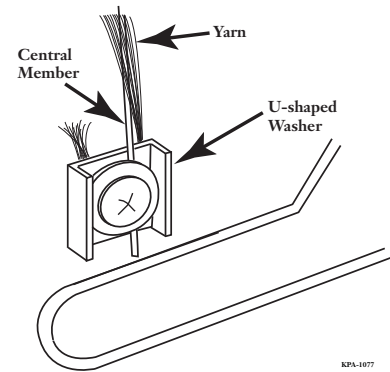

Figure 8 — Central Member Strain-relief
**Step 4:** Wrap yarn around the screw in a clockwise direction and under the U-shaped washer (Figure 8).